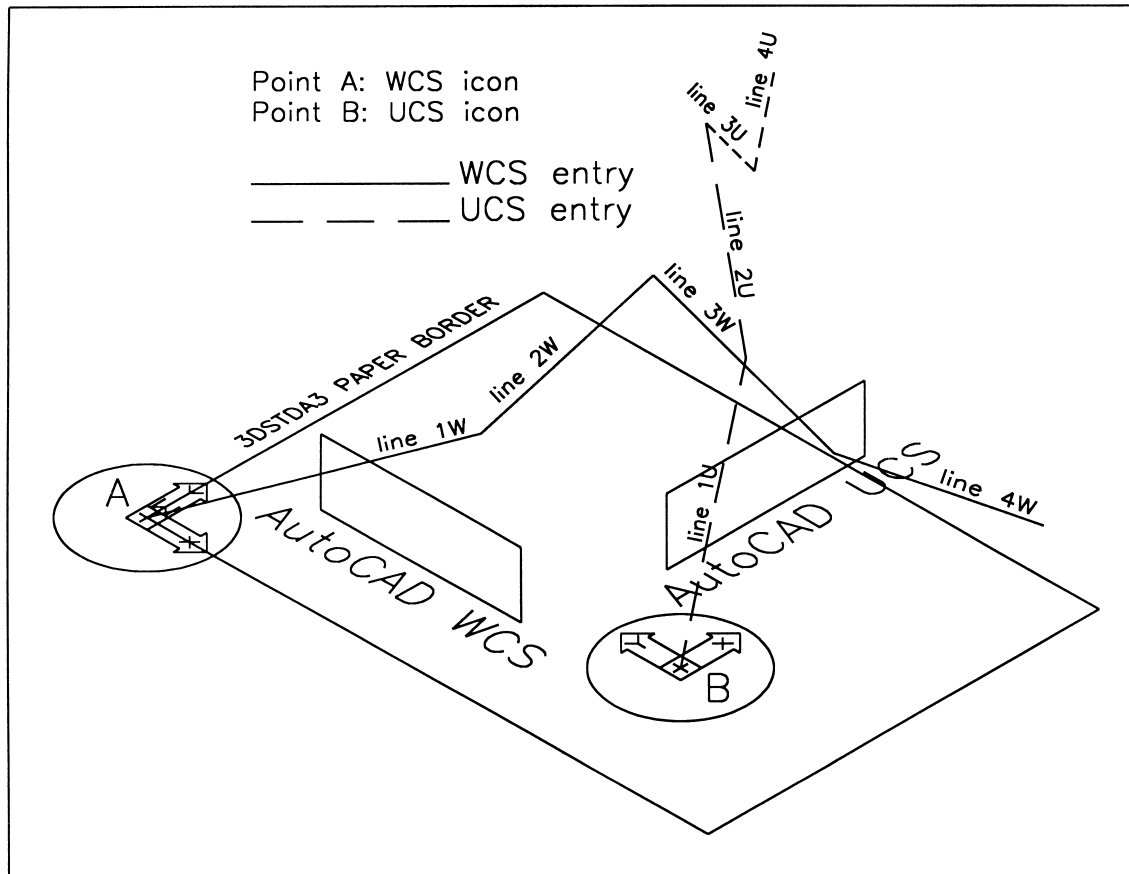

Figure 3.7 Coordinate entry exercise.
- 2 Open your 3DSTDA3 template file and refer to Fig. 3.7
- 6 The WCS icon should be positioned at the left vertex of the black border – point A in Fig. 3.7